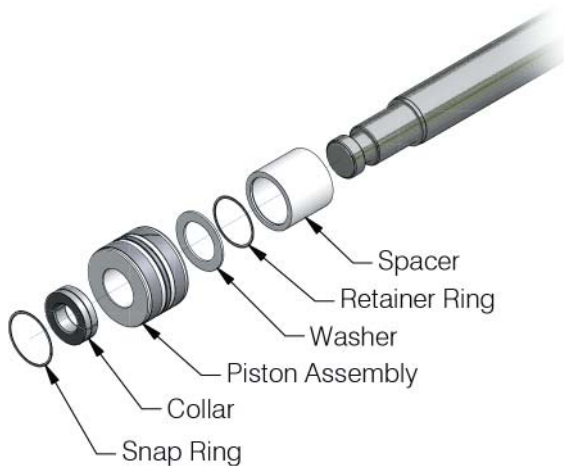
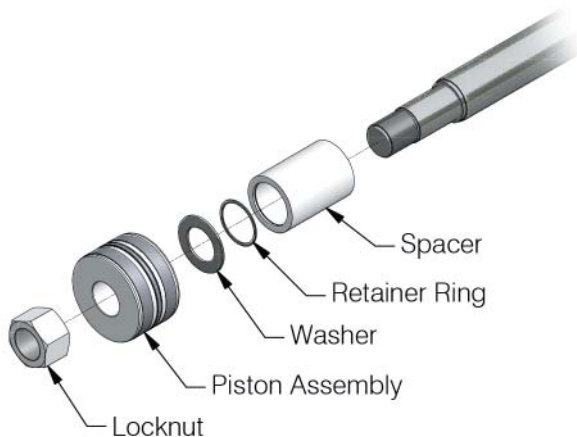

Figure 3 Remove Piston Assembly (Collar Design)
Figure 4 Remove Piston Assembly (Locknut Design)
3. Remove either the collar (Figure 3) or the locknut (Figure 4), and remove the piston, and the washer, retaining ring, and spacer, if applicable.